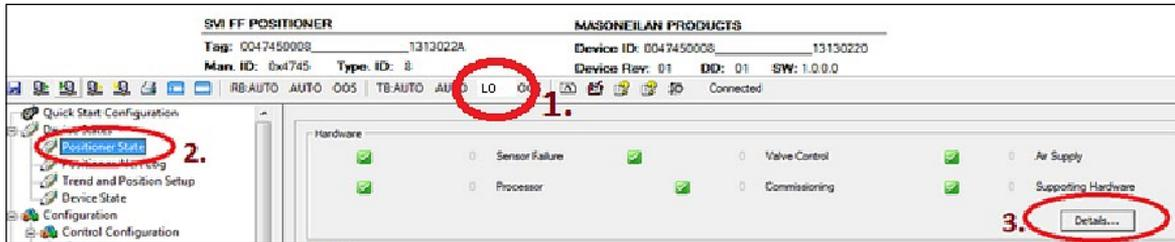
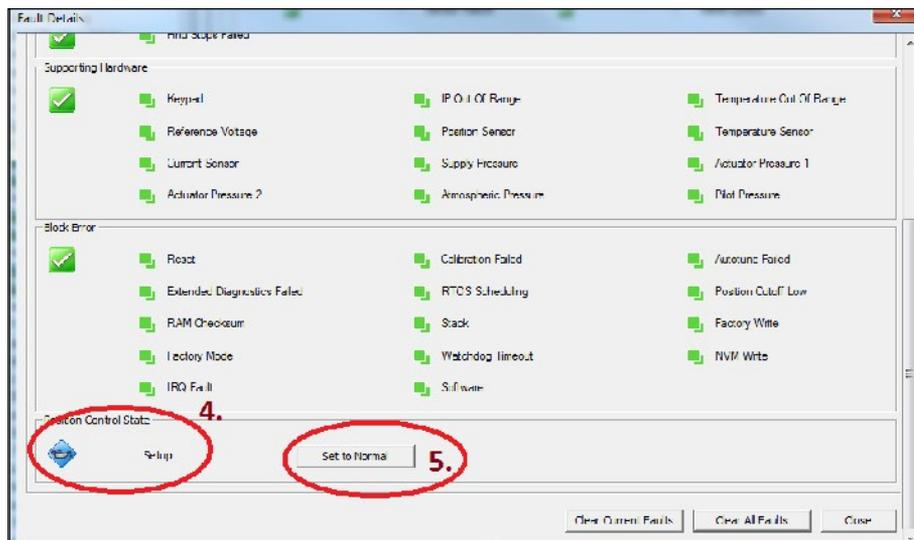

Figure 97 - SVI FF DTM
Figure 98 - Position Control State
1. Open the device DTM and ensure that it is in *Connected* state (Figure 97).
2. Set the TB to Manual mode to avoid valve movement, (1. in Figure 97).
3. Select **Positioner State** from the DTM Menu (2. in Figure 97).
4. From the *Hardware Group* select **Details . . .** (3. in Figure 97)
In *Position Control State* group box (at the bottom of the screen) you can see that the device is being setup from the local display (4. in Figure 98).
5. Press **Set to Normal** (5. in Figure 98) to switch the display back to *Normal* mode and the positioner follows the setpoint received from Transducer block. You can verify success by noting that the TB state is not LO, as in Figure 97.